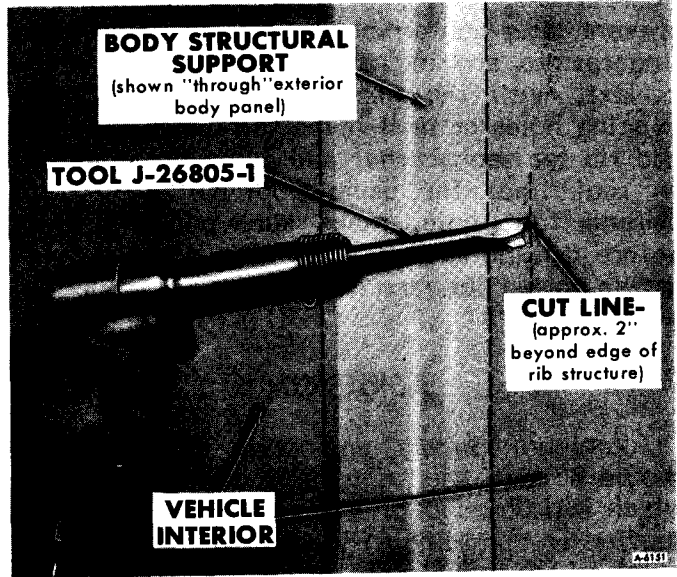

Figure 10—Panel Removal with Air Chisel —Step 3
3. Working from the vehicle exterior and using a standard air chisel with a Rip Bit (J-26805-1), begin to cut the damaged panel out, cutting parallel to the "ribs" and approximately two inches "inside" of the rib structure. (See figure 10.) Then remove the cut-out section of the panel.